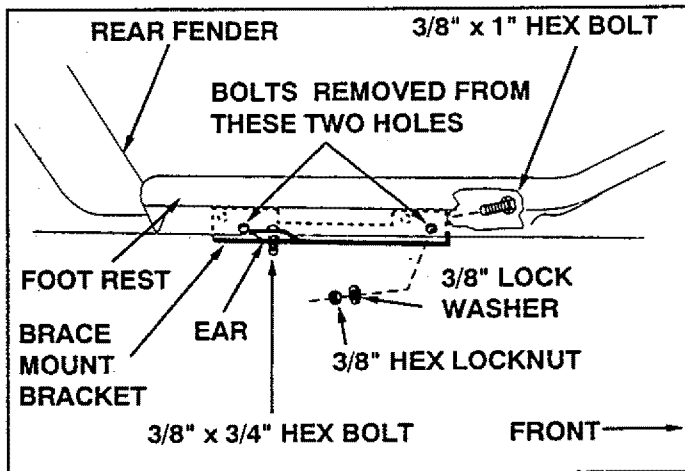

FIGURE 4 (Right hand side view)
- Starting at the rear of the foot rest, remove and discard, if present, the two bolts in the bottom set of holes as illustrated in figure 4. Repeat on opposite side foot rest.
- Place a 3/8" x 3/4" hex bolt in ear of both brace mount brackets as shown in figure 4. Now, using the two small bottom slots in the brace mount brackets, attach both brackets (R.H and L.H.) underneath both sides of the tractor frame using four 3/8" x 1" hex bolts, lock washers and lock nuts. (Brackets should be positioned on the inside of the frame with ears to the rear and pointing outward.) **Do not tighten.** See figure 4.